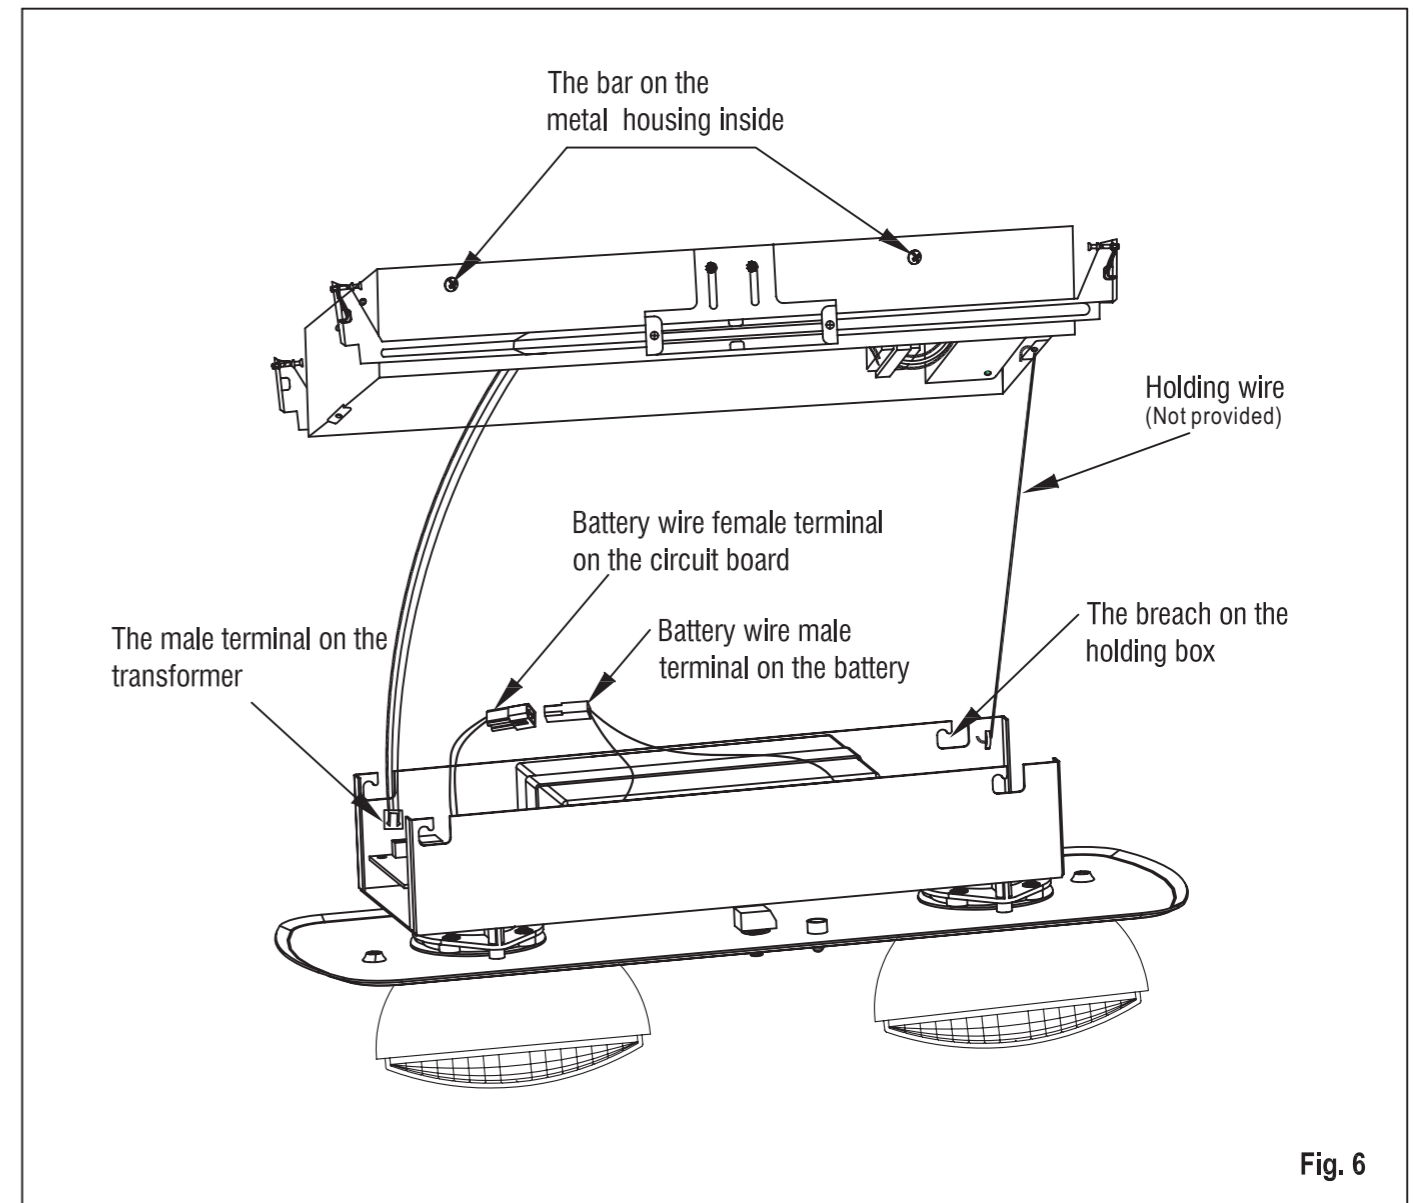

Fig. 6
5. Connect battery wires. Join male terminal on the battery to female terminal on the circuit board. (Fig. 6) Connect male terminal on the transformer to circuit board on the holding box and face plate assembly. (Fig. 6)
6. Remove the holding box and plate assembly. Inoculating the bar on the metal housing inside to join the breach on the holding box. (Fig. 6)